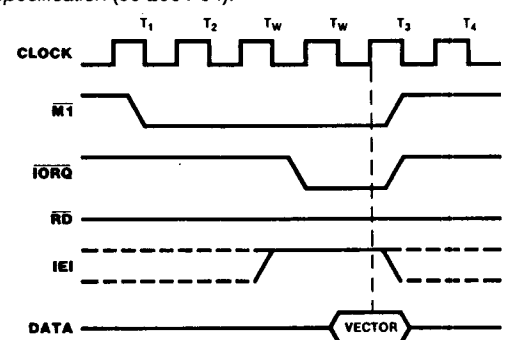

Figure 17. Interrupt Acknowledge Cycle
**Interrupt-Acknowledge Cycle.** After receiving an interrupt-request signal from an SIO ( $\overline{\text{INT}}$  pulled Low), the Z80 CPU sends an interrupt-acknowledge sequence,  $\overline{\text{M1}}$  Low and  $\overline{\text{IORQ}}$  Low, a few cycles later (Figure 17).